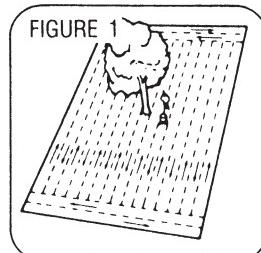

FIGURE 1
2. For easiest application, spread across the shortest edges of lawn first, making two "header" strips for a turning area, and then spreading between the header strips. See figure 1.